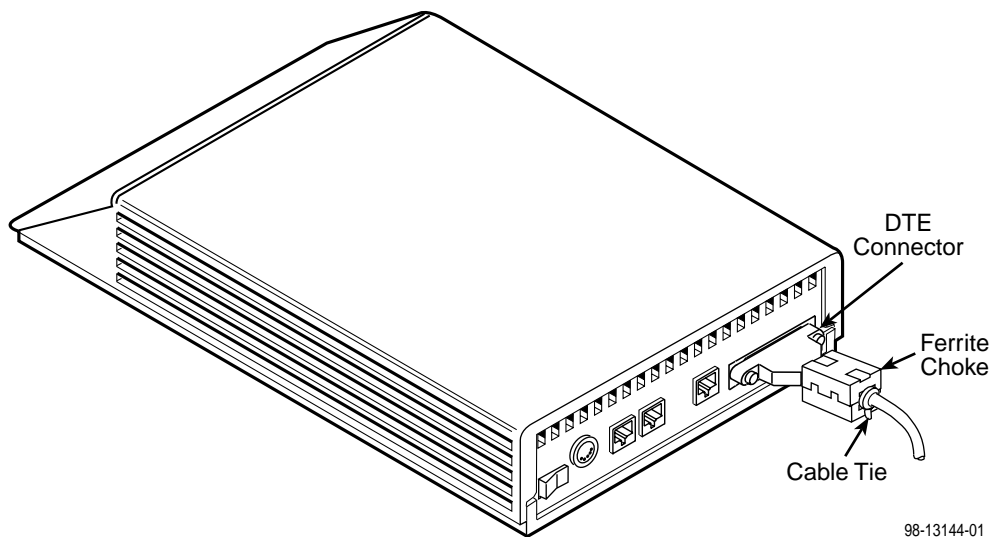

Figure 2-4. Model 3810 and 3820 DTE Cable and Ferrite Choke Installation
2. Connect the DB-25 plug on the cable to the DB-25 socket labeled DTE on the modem's rear panel. See Figure 2-4. Use a small screwdriver to fasten the cable to the modem.